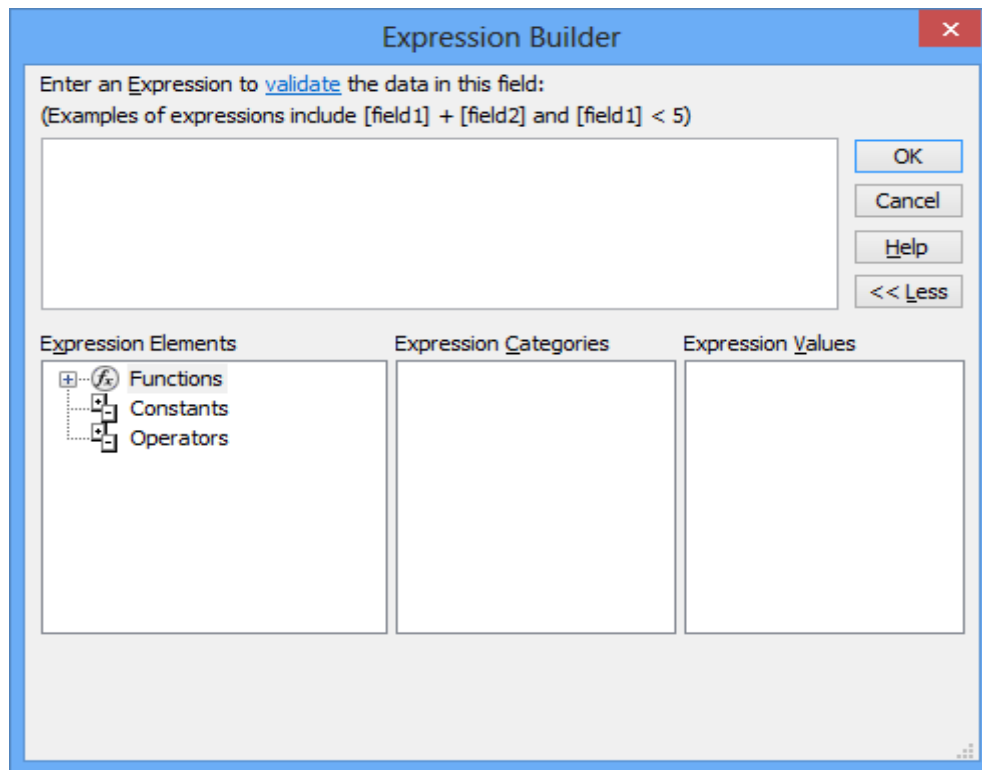

Figure 7: Expression Builder with Empty Window
- The Expression Builder window appears on your screen containing an empty window to type expressions (Figure 7). Buttons directly below the window aid you in writing the expression. Clicking a selection in the leftmost pane displays a different set of choices in the rightmost pane.